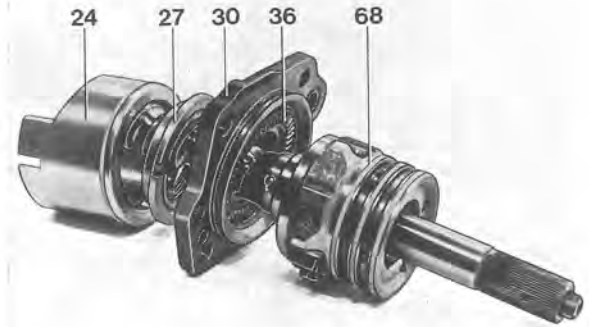

Fig. 6-79. Worm parts
8. Place the O-ring (26) and piston ring (25) in the recess on the sleeve (24). Fit the preassembled cover (30) with bearing washer (35), bearing (36), ring (27) and sleeve (24) on the worm, see Fig. 6-79.